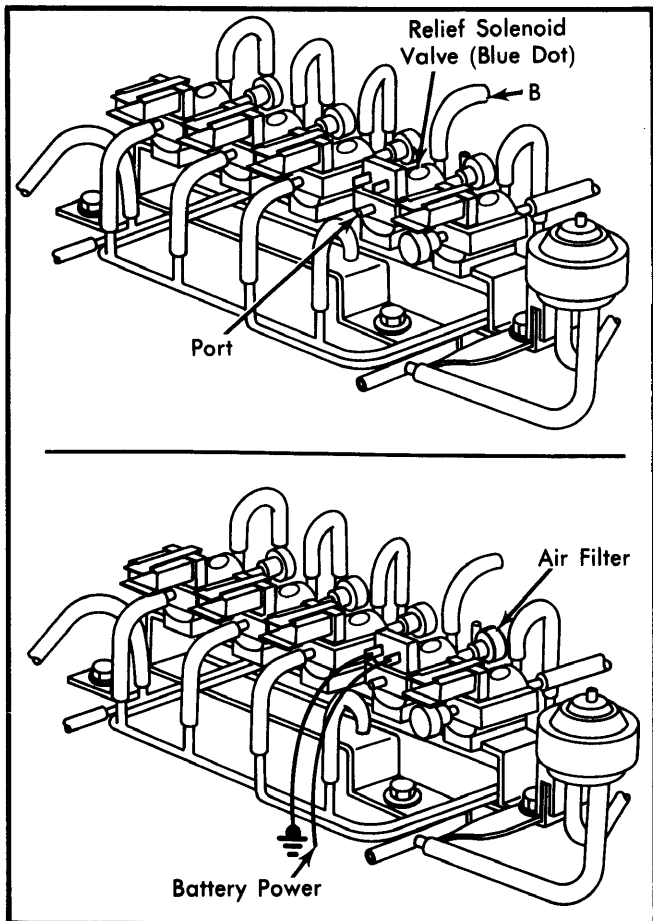

Fig. 3 Testing Relief Solenoid Valve
- 1) Disconnect vacuum sensing tubes from relief solenoid valve and vacuum pipe. Blow through solenoid valve from vacuum sensing tube B in Fig. 3. Air should pass through valve and escape from front port.